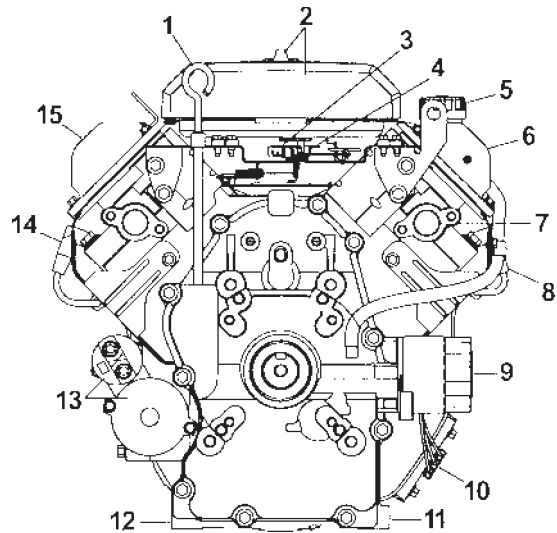

Figure 12. Engine Service Areas
2. Remove the oil filler cap (Figure 12, Item 5), and fill engine crankcase with recommended type oil as listed in Table 3. Fill to the upper limit of dipstick.